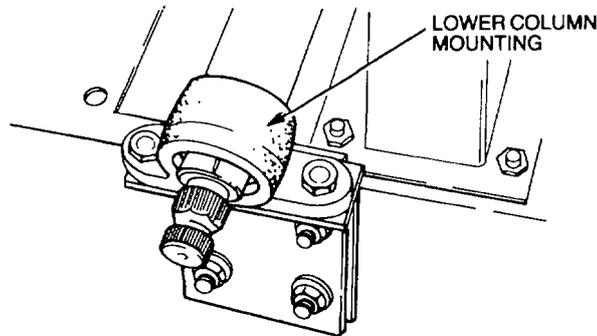

Figure 87 Steering Column Lower Mounting
- o.** Remove the bolts securing the lower end of the column to the firewall (Figure 87).
- d. Loosely secure the lower end of the column to the lower support bracket with the nuts and bolts (Figure 87).